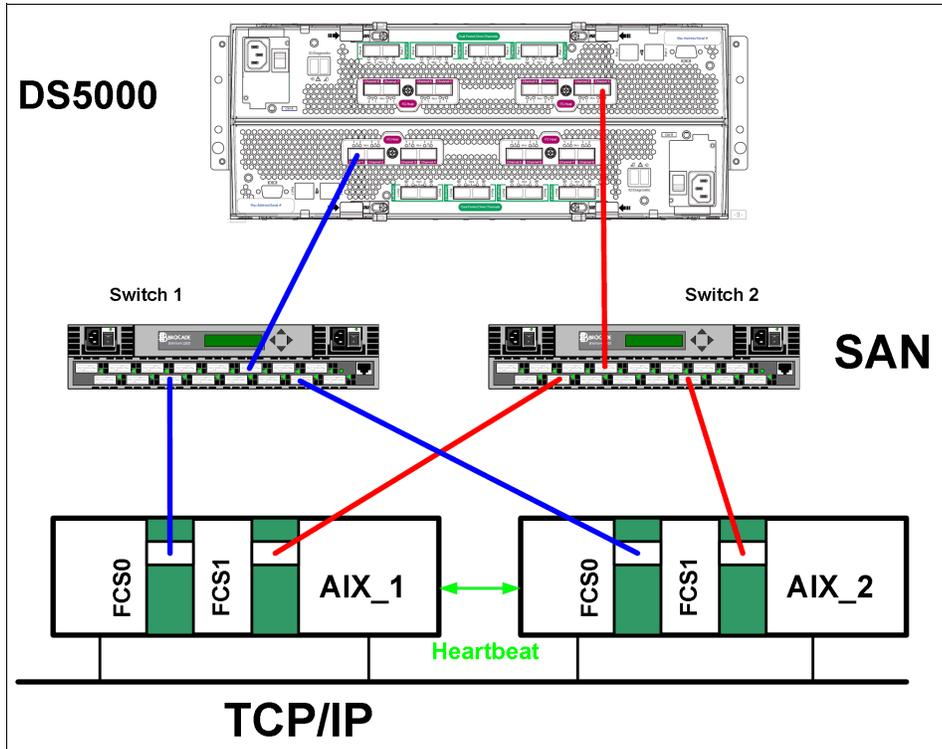

Figure 12-17 PowerHA cluster and DS5000
The benefit of a PowerHA environment is to eliminate the single points of failure. Figure 12-17 shows the concept of a two-node PowerHA cluster (it is not a limitation; you can have more nodes) attached to a DS5000 Storage Server through a fully redundant, independent SAN fabrics. This type of configuration eliminates a Fibre Channel (FC) adapter, switch, or cable from being a single point of failure (PowerHA itself protects against a node failure).